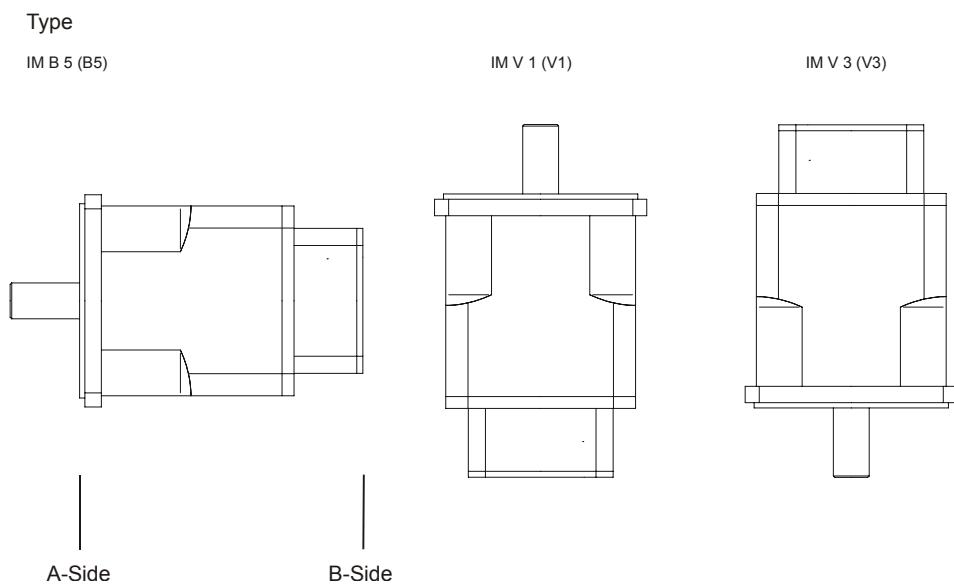

Fig. 2: Mounting Positions of JK6 Motors
- Protect the motors against liquids soaking into the bearing in case the shaft end is installed upwards (design V1); refer to Fig. 2.
| Installation | <ul style="list-style-type: none"> Horizontal position (B5) to Fig. 2 on Page 21 If the module is operated at an altitude higher than 1,000 m above sea level, derating will be required. A clearance of at least 10 cm above and below the motor must be maintained to provide proper air circulation. |